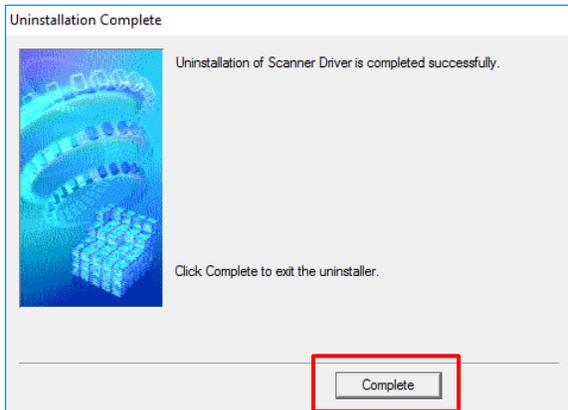

Figure 37: Canon Scanner Uninstall Complete
6. The scanner uninstall completes. Click the **Complete** button as shown in Figure 37: Canon Scanner Uninstall Complete.